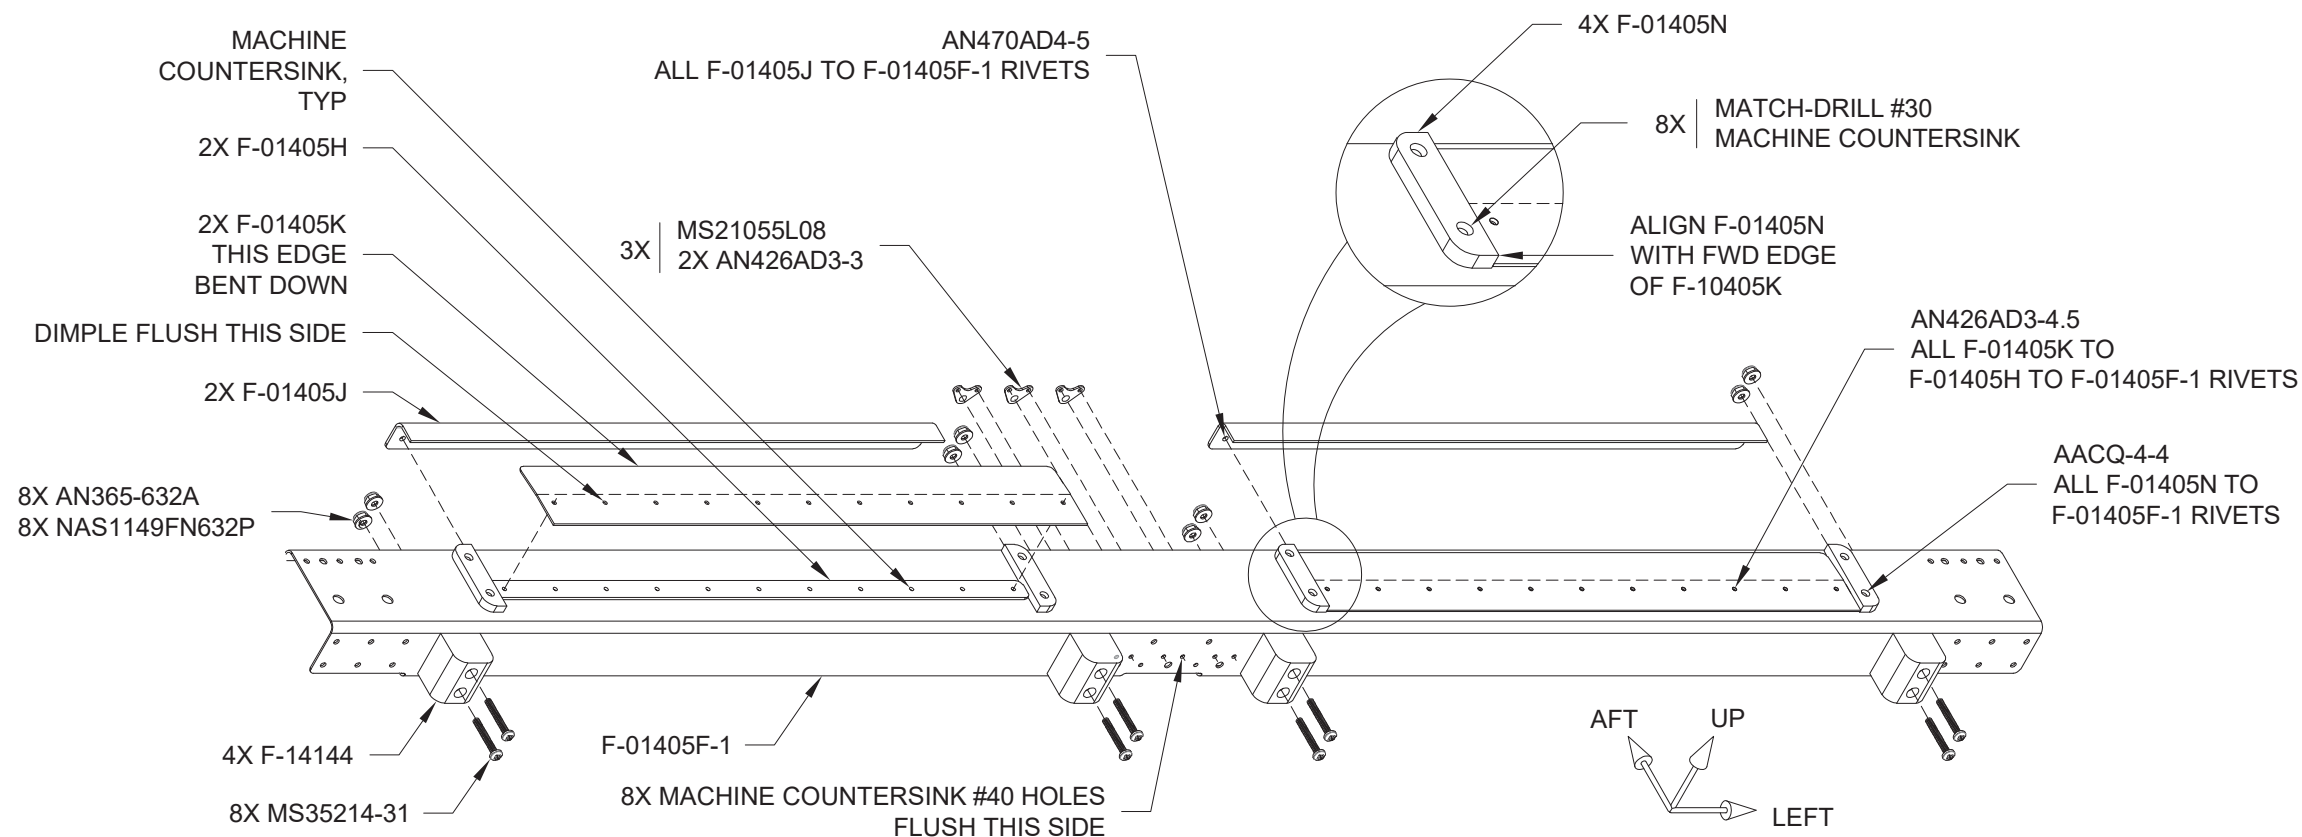

FIGURE 2: BRACE
Step 9: Clamp the F-01405N Seat Back Adjustment Guides to the brace. Set one edge flush with the forward edge of the F-01405K Guides. See Figure 2.
Step 10: Match-Drill #30 the holes in the F-01405F-1 Brace into the F-01405N Seat Back Adjustment Guides as shown in Figure 2.
Step 12: Rivet the seat back adjustment guides to the brace as shown in Figure 2.